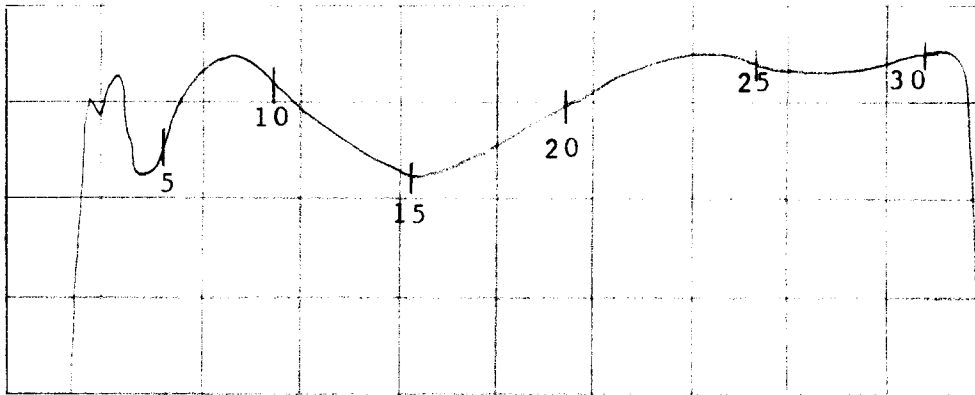

Figure 5
- (1) Adjust sweep generator and scope controls to give swept range of frequencies from 0 to 35 Mhz.
- (2) Calibrate by correcting a 50 Ω calibrating load to "Z₂" and adjust vertical deflection of trace to give 2 full divisions (2 cm) this establishes a 1.5:1 reference.
- (3) Replace the 50 Ω calibrating resistor with the filter (be sure filter is terminated in 75 Ω at its output. Read worst frequency/V.S.W.R. points from the trace (those points which come closest to the 1.5:1 reference set in Step (2)), identify by means of sweep generator crystal marker, typically the worst spots are 4, 15, and 32 Mhz.
- (4) Re-adjust sweep generator to give expanded view of worst areas, re-calibrate per Step (2) and read V.S.W.R. Compare with master standard filter on Figures 5, 6, and 7 of this Spec. DON'T try to fiddle the V.S.W.R. into Spec. by means of trimmer.